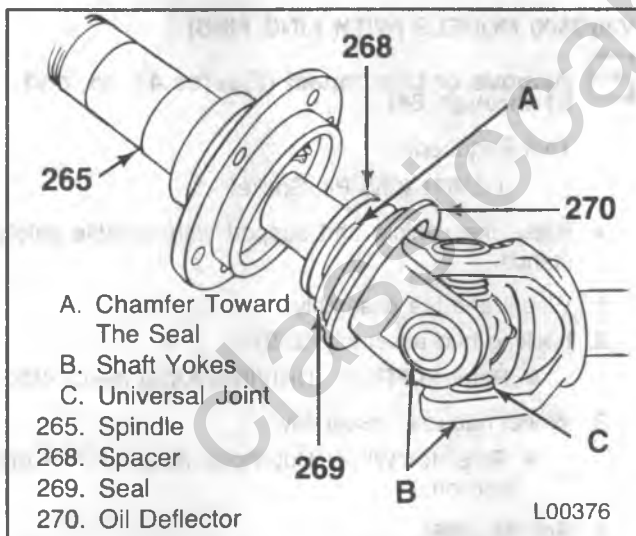

Figure 59 — Installing the Spindle
- Seal (269) onto the oil deflector (270) with the deflector lip toward the spindle (265).
- Oil deflector (270) and seal (269) onto the axle shaft.
- Spacer (268) onto the axle shaft.
- The chamfer points toward the oil deflector (270) (figure 59).
- Spindle (265) onto the steering knuckle (274).
- Slide the spindle over the axle shaft until it seats on the steering knuckle. The bolts (278) must protrude through the spindle.
- Bracket (264) and plate (263).
- Only V30/3500 models use a bracket (264).
- Washers (262) (V30/3500 models only) and NEW nuts (261).